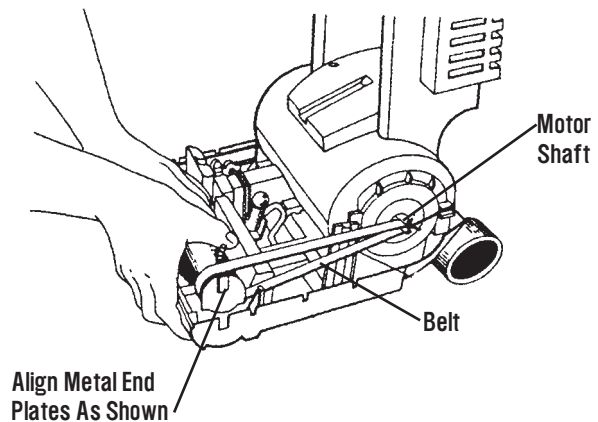

Figure 17
3. Remove the Rotary Brush by pulling it straight up using both hands. (See Figure 17.)
7. Replace the Brush Assembly by aligning the metal ends so the points face down. (See Figure 17.)